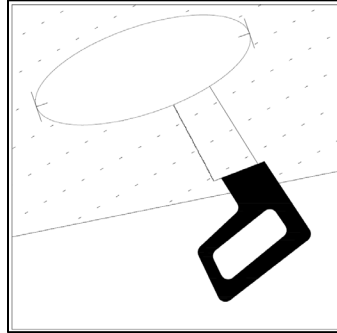

Figure 1
1. Remove existing retrofit fixture and recessed housing if present or move it out of the way since it will not be needed for installation. If a new hole is to be cut, use the provided hole template. Place template over the desired location. Trace the outer ring with a pen or pencil (not included). Cut the opening with a hole saw (hole saw is recommended to make the precise cut required for this installation) (see Figure 1). Recommended hole diameter is 2.5".